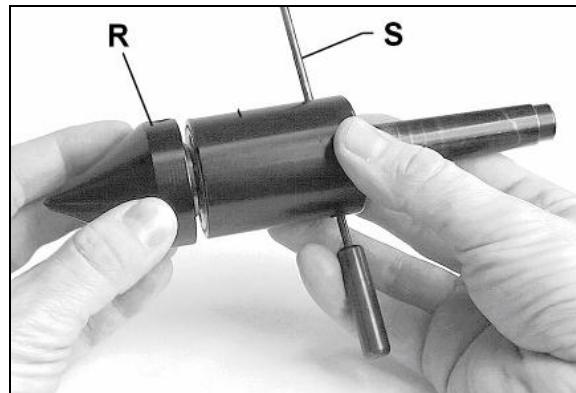

**Fig 34**
Turn the hand wheel (P, Fig 34) clockwise to move tailstock spindle forward. Lock tailstock spindle with the indexable knob (O).